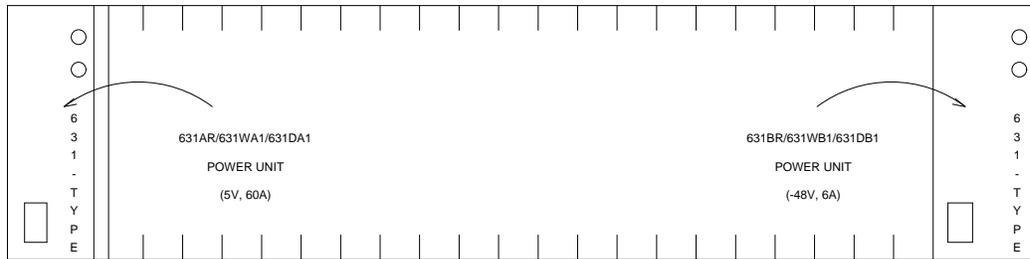

Figure 4-8. Locations of Power Units
11. Install the 631-type power units into the "A" carrier. Install the new 631DB1 in the right side of the carrier, and reuse the old 631-type power supply in the left side. Do not interchange the units. The 631AR, 631WA1, or 631DA1 is installed in the left side, while the new 631DB1 is installed in the right side (see Figure 4-8).